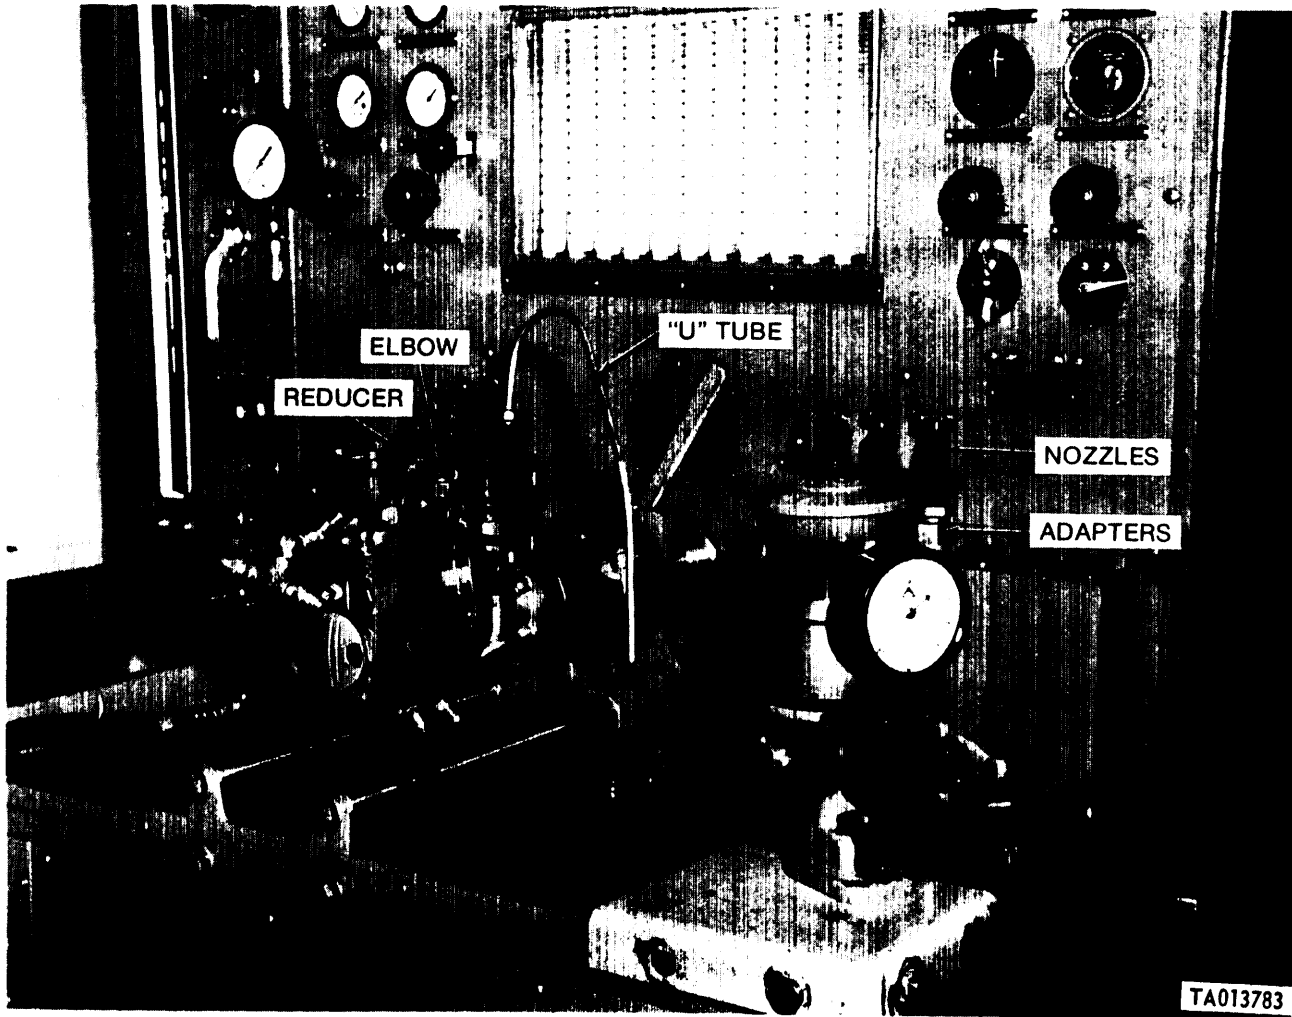

Figure 3-164. Fuel injection pump on test stand showing nozzle tester hook-up.
d. Position the nozzle tester on the right corner of the test stand (fig. 3-164).
g. Install locally fabricated U tube in the No. 1 hydraulic head outlet. Position a plastic container under the open end of the U tube to collect test oil (which will be returned to the tester reservoir) (fig. 3-164).
f. Install the timing device cover using a new gasket, and tighten the retaining bolts and lock-washers fingertight. Install timing window cover or fuel shutoff housing. Remove U-tube from hydraulic head (fig. 3-164). Remove delivery valve screw (A, fig. 3-166). Remove fuel delivery valve (C), and